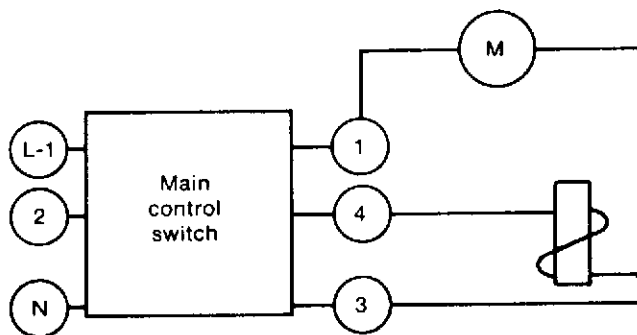

FIGURE 1 Existing wiring of the internal dowser of a KODAK PAGEANT 250A Projector
1. Disconnect the wire from terminal 4 of the main control switch (Figure 1).